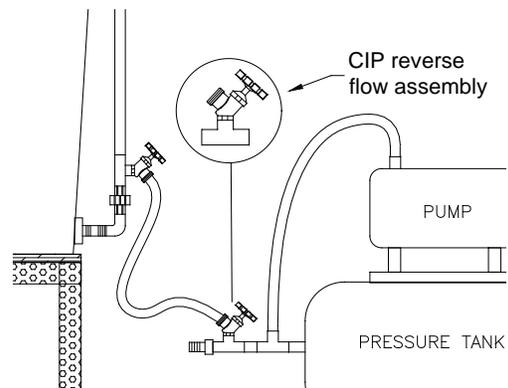

Figure 3-4
Step 9. Install the filter CIP reverse flow assembly downstream of the pump (figure 3-4).